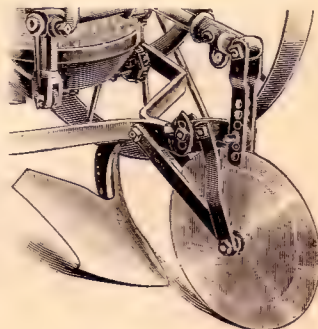

Fig. 142
The No. 1A Planter with Fertilizer Distributor (Plow with Disc see Fig. 142) . . .	70.00
The No. 2A Planter without Fertilizer Distributor (Plow with Disc see Fig. 142) . . .	60.00
**The Plow.**—This season, for the first, we offer our Improved-Robbins Potato Planter fitted either with an Opening Plow preceded by a Shield, as heretofore, or one preceded by a Rolling Coulter or Straight Disc, as shown in Fig. 142.